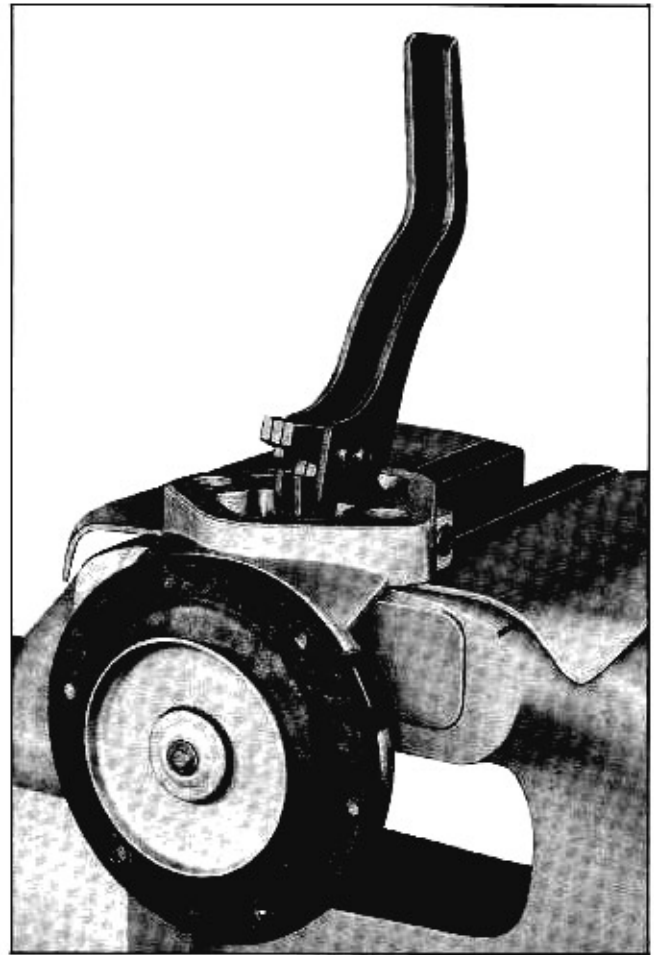

Fig. 6B-93 Diaphragm Assembly Installed
10. Pick up diaphragm and spring as an assembly and push pull rod through oil seal into body. Be sure diaphragm spring is seated in body. Have flat of pull rod parallel to flat of link with the diaphragm flush with the body. With palm of hand, turn the diaphragm 90°, or until flat of pull rod is perpendicular to pump link. This motion should engage the pull rod "eye" with the link hook. If not, repeat this procedure until the connection is made (Fig. 6B-93).